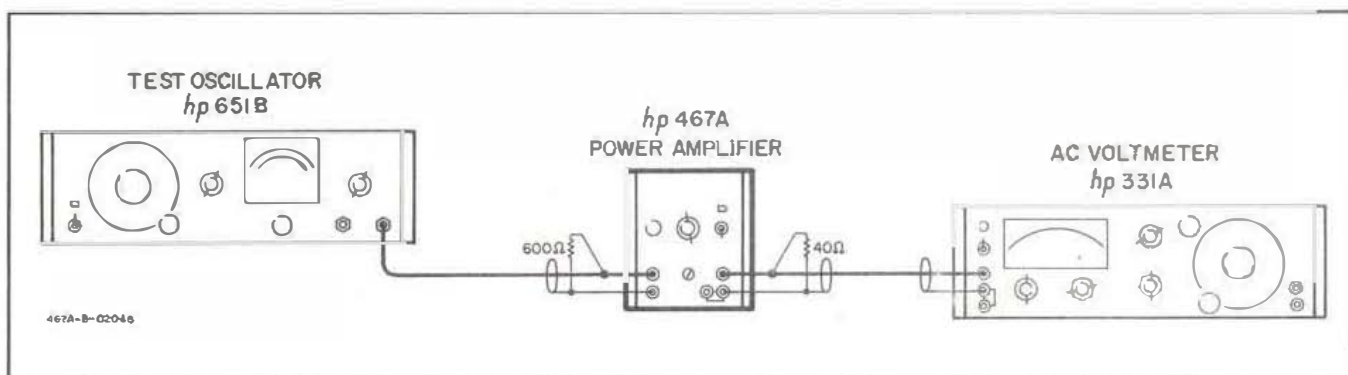

Figure 5-2. Output Capability Check
- b. Connect the Model 467A as shown in Figure 5-2.